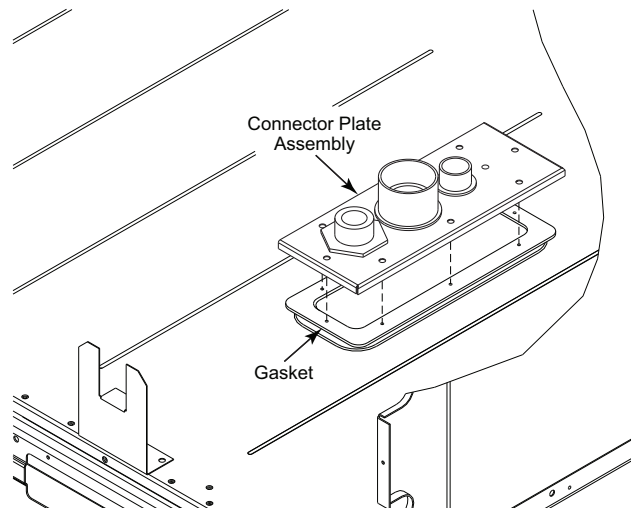

Fig. 16 — Completing Installation of Thru-the-Base Option
4. Place the gasket over the embossed area in the basepan, aligning the holes in the gasket to the holes in the basepan. See Fig. 16.